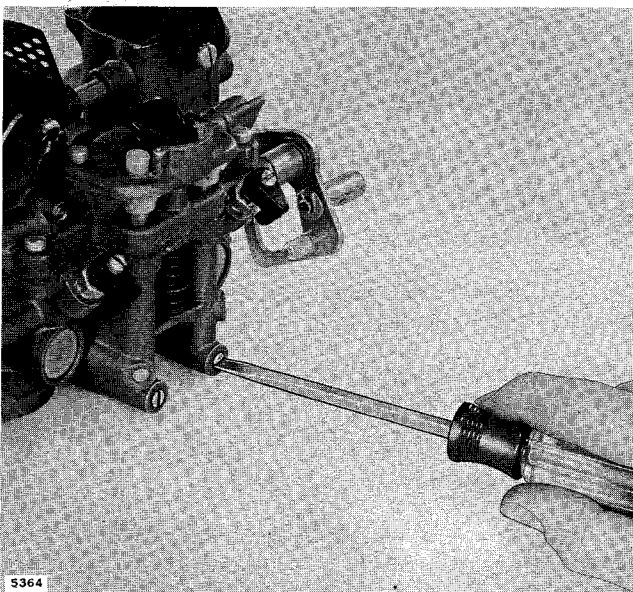

Figure 3-8. Removing Drain Plugs
- a. Drain the carburetor by removing the plugs from the carburetor body. See Figure 3-8.